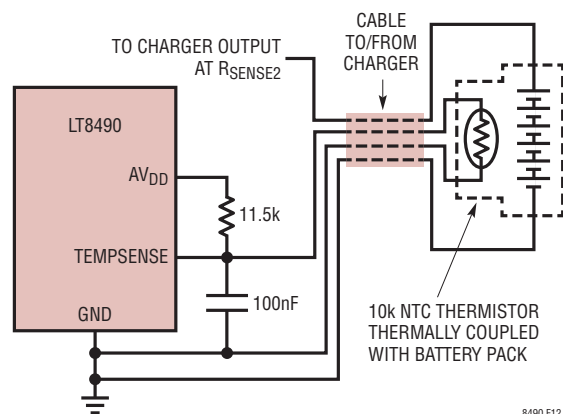

Figure 12. Battery Temperature Sensing Circuit
The LT8490 can measure the battery temperature using an NTC (negative temperature coefficient) thermistor thermally coupled to the battery pack. The temperature monitoring function is enabled by connecting a 10k Ω , $\beta = 3380$ NTC thermistor from the TEMPSENSE pin to ground and an 11.5k Ω resistor from AV_{DD} to TEMPSENSE (as shown in Figure 12). If battery temperature monitoring is not required, then use a 10k Ω resistor in place of the thermistor. This will indicate to the LT8490 that the battery is always at 25°C.
3. BATTERY DISCONNECT SENSING: The LT8490 detects if the battery and thermistor have been disconnected from the charger by monitoring the TEMPSENSE pin voltage. When the connection to the battery is severed, as shown by the arrow in Figure 12, the connection to the thermistor is also severed and the TEMPSENSE voltage rises up to AV_{DD} through the 11.5k Ω resistor. During the time when the battery is not present, the LT8490 halts charging. The charger automatically restarts the charging at Stage 0 when a battery (along with integrated thermistor or resistor) is sensed through the TEMPSENSE pin.